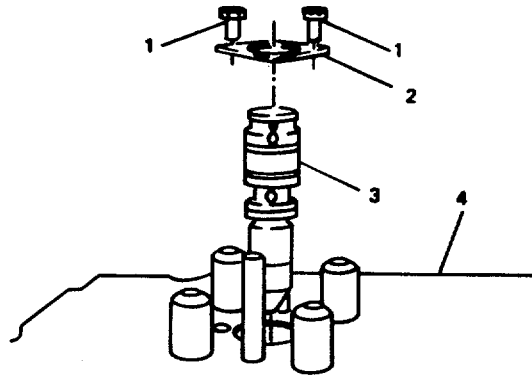
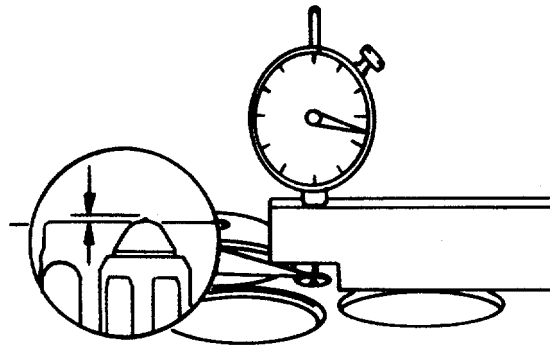

FIGURE 4-17. Injector Removal/Replacement.
FIGURE 4-18. Injector Protrusion Measurement.
- (d) Install the injector (3, FIG. 4-17) in the cylinder head (4).
- (e) Install injector holddown clamp (2).
- (f) Install capscrews (1). Tighten screws to 145 in-lb (16 N-m).
- (g) Turn cylinder head (4) over. Use a gauge block to measure injector protrusion (FIG. 4-18). Verify injector protrusion is between 0.090 inch (2.29 mm) and 0.110 inch (2.79 mm).
- (i) Return cylinder head (4, FIG. 4-17) to original position. Remove capscrews (1), hold down clamp (2), and injector (3).